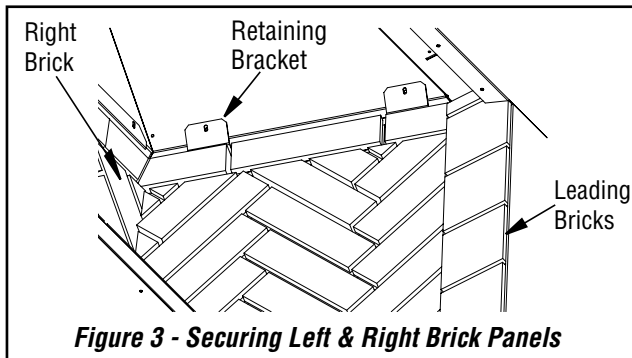

**Figure 2 - Slots for Brick Panels**
4. Install the left and right brick panels. Place left brick panel inside the fireplace (there is a bracket with 2 tabs on the bottom of each brick panel). Angle the panel and position it so the tabs are lined up with the slots in the bottom of the fireplace. Once they are lined up, lift the left brick panel into position (*Figure 2*). Next, take a large flat bladed screwdriver and adjust so there is a good tight joint between the left brick panel and left leading brick panel (*Figure 2A*). **NOTE: Large bladed screwdriver is to be used only on the rear side of the panel. The use of excessive force when adjusting joints can cause panels to chip.** Repeat steps to install the right brick panel.